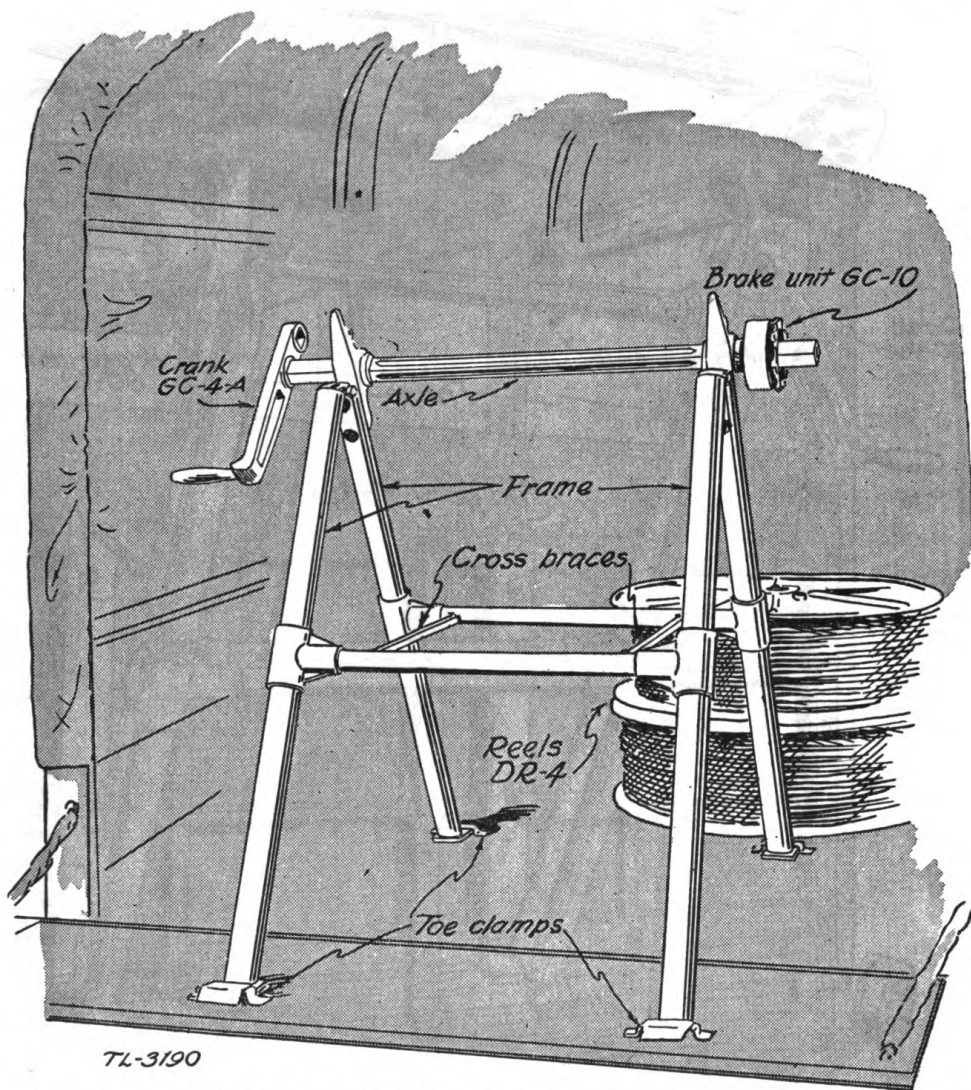

FIGURE 11.—Typical installation of reel unit RL-31 in an upright position in a small truck by means of toe clamps.
8. Toe clamps.—The toe clamps are stamped steel fittings intended to hold the reel unit RL-31 in place in an upright position on the floor of a truck. This is the usual means of operation in vehicles. The two forward clamps can be mounted on the inside of the tail gate, and the two rear ones on the floor of the truck, as shown in figure 11, or all four can be put inside the truck. The exact method of installation will depend on the available vehicle. The clamps are left permanently in position, as they do not interfere with other uses of the vehicle. Locate them accurately so that the reel unit fits against them snugly but without binding, after the legs have been spread and the cross braces locked open.